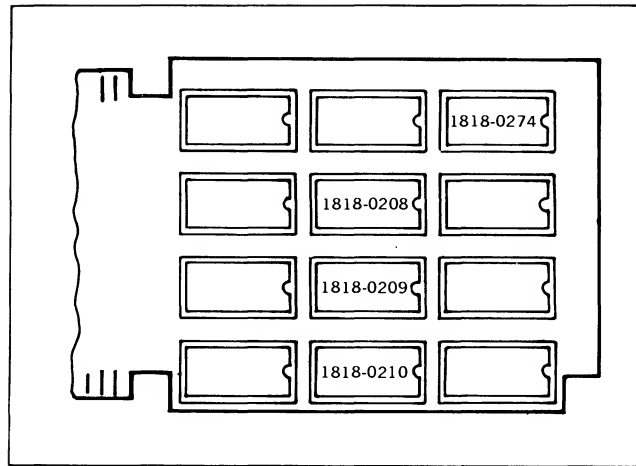

Figure 7-37. 13261A Device Support Firmware IC Locations on Control Memory PCA (HP 2641A)
- Figure 7-37 shows the HP 13261A Device Support Firmware IC locations on the Control Memory PCA. Perform the procedure for "13261A Device Support Firmware," except use ROM IC 1818-0274 instead of 1818-0211.